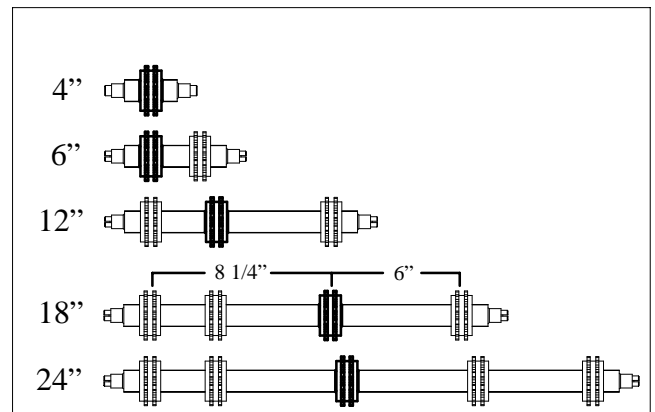

Figure 46
3. As required, install free moving sprockets as per Figure 46, items in bold are the fixed drive sprockets.